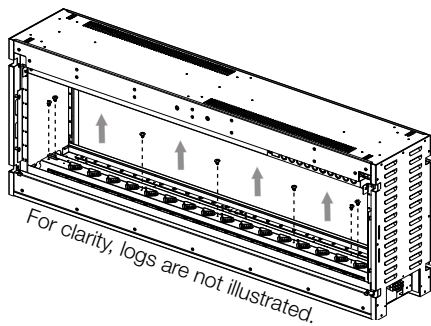

Fig. 4-6
- B. Remove the screws from the log set base/media tray. Keep the screw with the log set for future use (**Fig. 4-6**).